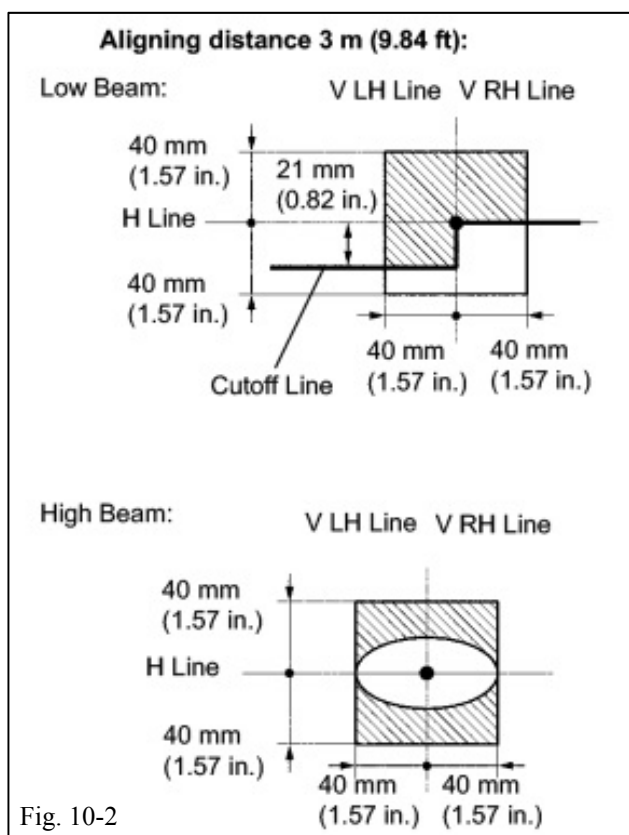

Fig. 10-2
- (b) Adjust the vertical aim of the lamps (Fig. 10-2).
- (1) Cover the headlight on the opposite side to prevent light from the headlight not being adjusted from affecting the headlight aiming process.